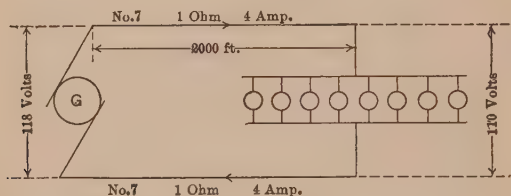

FIG. 90. Two-wire system. The two line wires each carry 8 times the current of 1 lamp.
**47. Relation of Voltage to Watts Lost in the Line.** Let us assume that we wish to use eight 110-volt lamps, each taking  $\frac{1}{2}$  amp., as in Fig. 90. The lamps are 2000 ft. from the generator and No. 7 wire is used, which makes about one ohm per wire.
The line, then, has to carry only 2 amp. and being the same wire as in Fig. 90 has a total resistance of 2 ohms.
which is the same as in the 110-volt line of Fig. 90, which used 4 times as large a wire.
the total amount of copper is a little greater than  $\frac{1}{4}$  that of the two-wire system of Fig. 90. In fact, there is just  $\frac{3}{8}$  as much copper in the three-wire system.